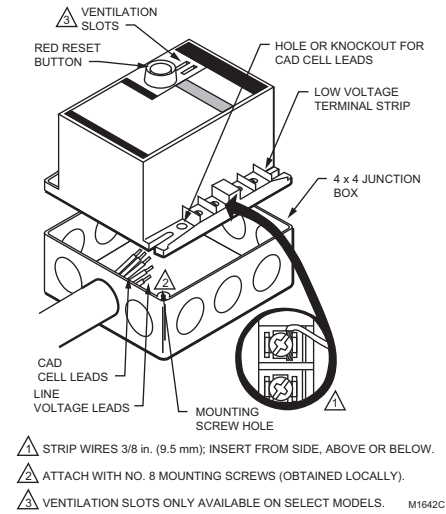

Fig. 2. Wire and mount 150°F (66°C) maximum ambient temperature oil primary control.
2. Be sure that operating temperatures are between -40°F and +130°F (-40°C and +54°C). Select R8184G,P models have a maximum temperature of 150°F (66°C), but must be mounted parallel to the ground to achieve 150°F (66°C). See Fig. 2.